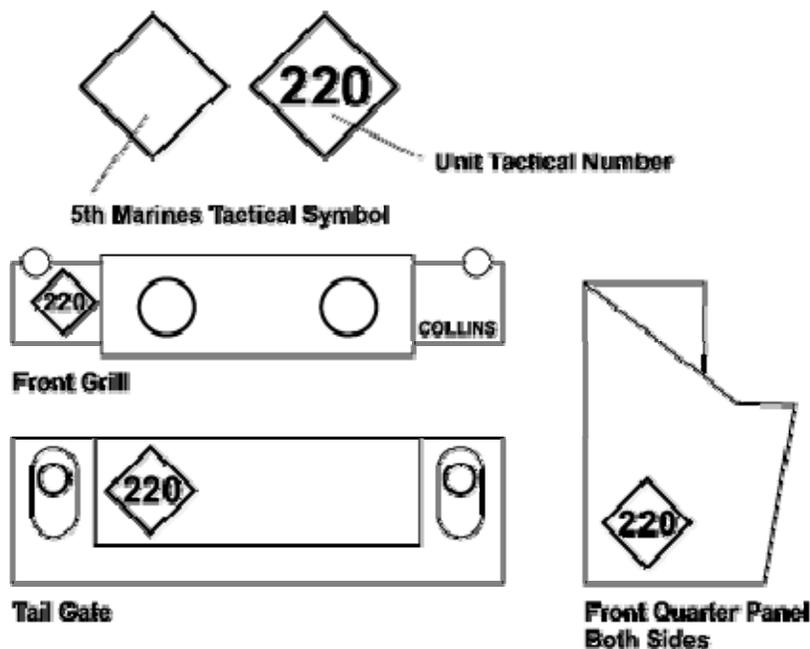

Figure 8-2. HMMWV Vehicle Markings.
- c. *See Figure 8-2. See Regimental SOP – Tactical Markings for MAGTF Units.*